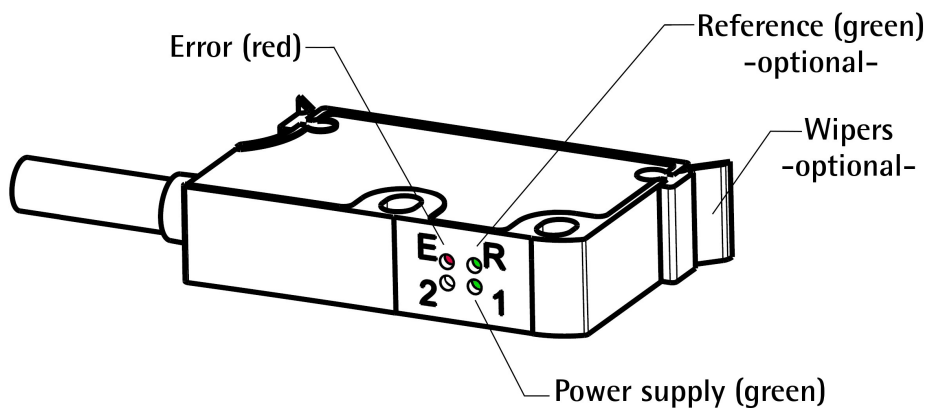

Figure 8 - Diagnostic LEDs and optional cleaning wipers
4.10 Diagnostic LEDs (Figure 8)
The following list shows some typical faults and errors that may occur during installation and operation of the magnetic measurement system. Refer also to the "4.10 Diagnostic LEDs (Figure 8)" section on page 23.